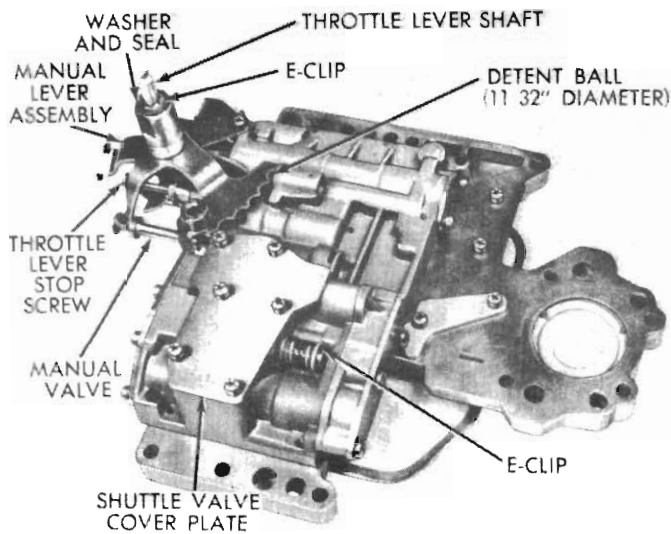

Fig. 55 - Valve body controls (A-727 and A-904-LA)
(1) Turn valve body over (Fig. 55) and remove shuttle valve cover plate.